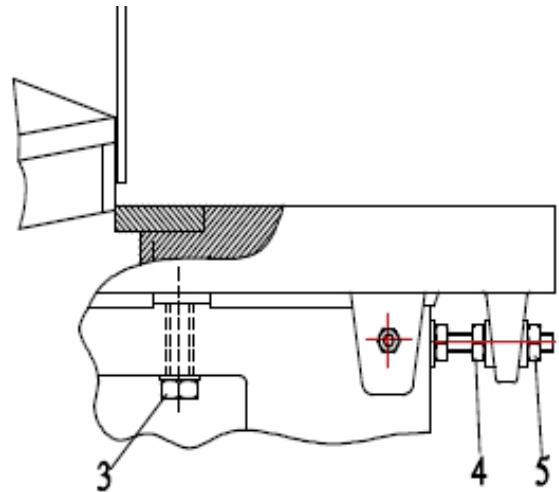

Fig. 12: Adjusting the cutting gap
Step 7: Remove screw (Pos. 3, Fig.12).
Step 8: Increase or decrease the cutting gap using the adjusting screw in areas (Pos. 4 and 5, Fig. 12).